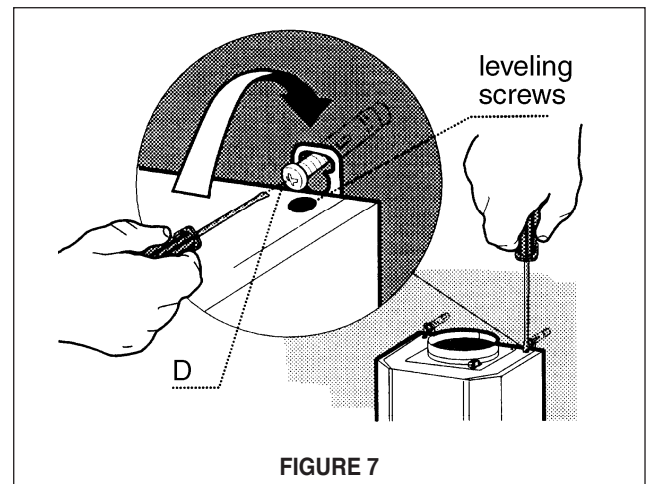

FIGURE 7
2. Before mounting the CANOPY SECTION, tighten the two leveling screws located near the CANOPY SECTION mounting points as indicated in **FIGURE 7**.
3. Hook the body on to the MOUNTING SCREWS (**D** in **FIGURE 7**) and fully tighten the MOUNTING SCREWS.